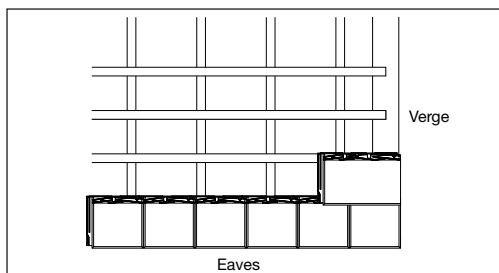

Fig 100 – Fixing second course
- Begin second course at right hand verge with a slate-and-a-half slate, then continue with standard slates (Fig 100).